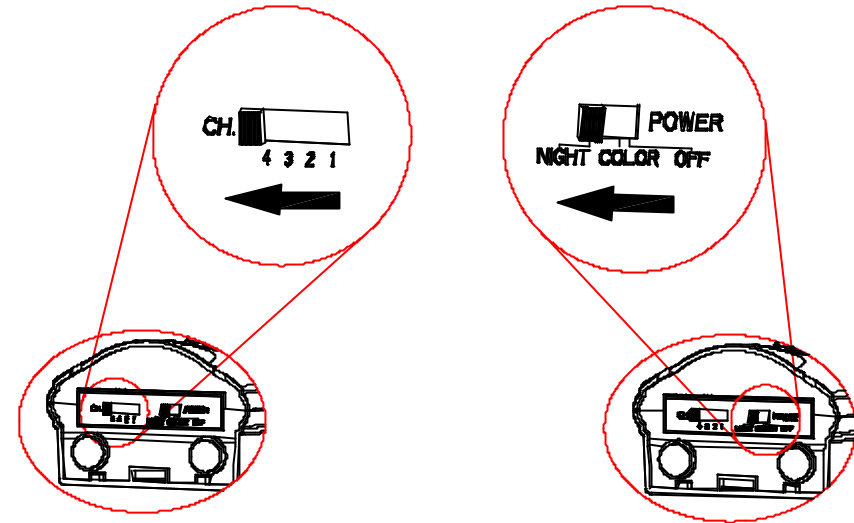

Fig. 9
1. Set the channel switch (numbered 1~4) that matches to that of the Monitor you plan to observe. (Fig. 9)
2. In the daytime, slide the NIGHT/COLOR/OFF switch to the COLOR position, so that colorful image will be revealed on the Monitor. (Fig. 9)
3. In the nighttime where ambient light level is insufficient, slide the NIGHT/COLOR/OFF switch to the NIGHT position for monochrome image display. (Fig. 9)